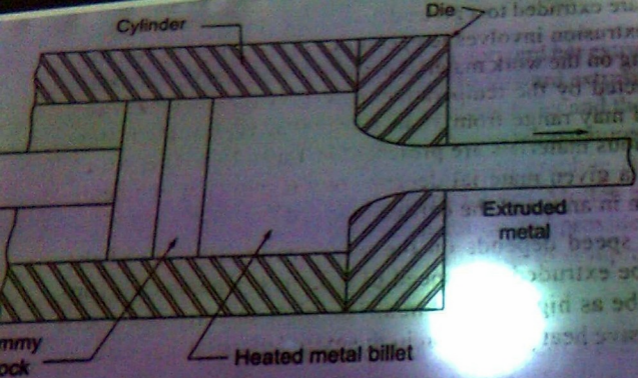

Fig. 7.48 Typical extrusion set up
- Forward Hot Extrusion: Fig 7.48 signifying the flow of metal in the forward direction i.e the same as that of the ram.